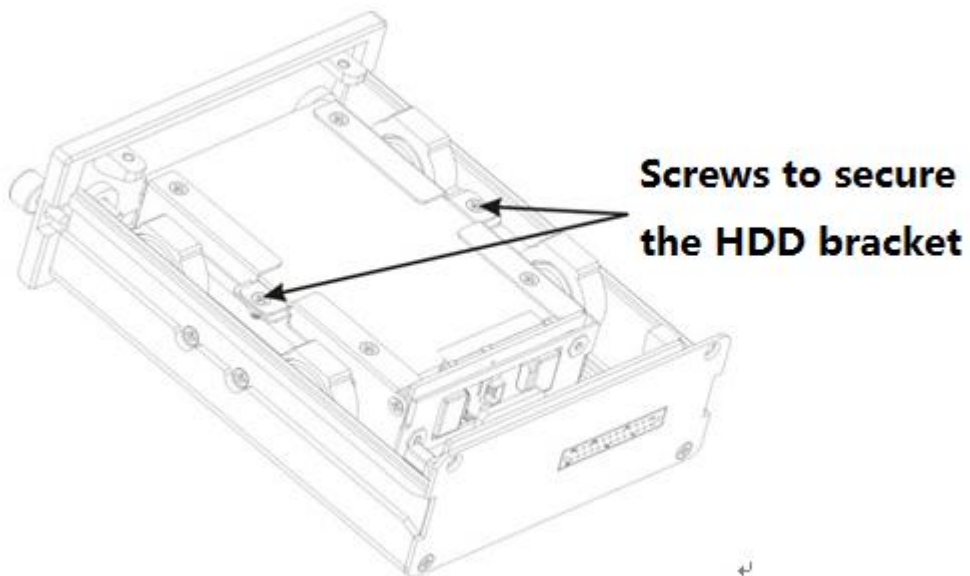

Figure 2-16
Step 6 Install HDD bracket. Put the HDD bracket to the HDD box. Secure the two screws of the HDD bracket. See Figure 2-16.